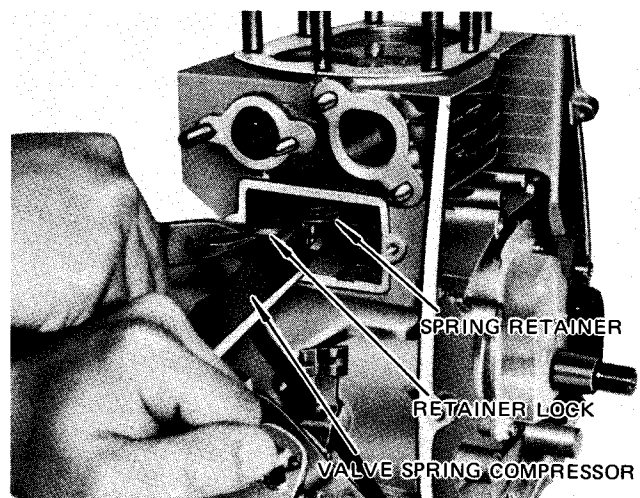

Fig. 5-3-2
- 2) Push up the valve spring with the valve spring retainer (special tool), unlock the retainer, and remove the valve. Do the same for both the intake and exhaust valves. (See Fig. 5-3-2.) Then remove the valve spring and retainer.